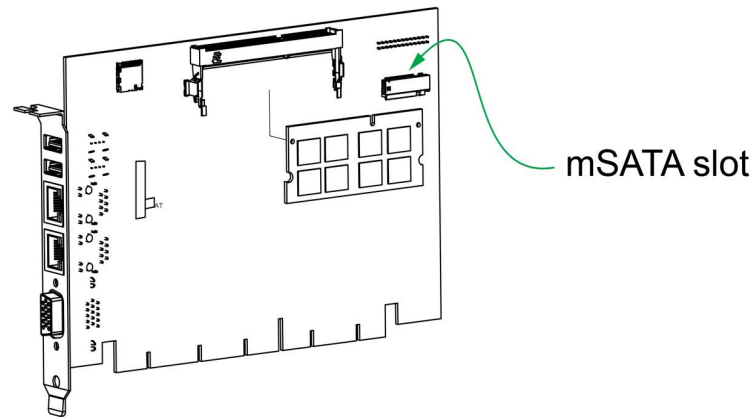

Figure 17 - mSATA Slot Location in CamBot Brick PC
2. Locate the Brick PC's mSATA slot shown in **Figure 17**.